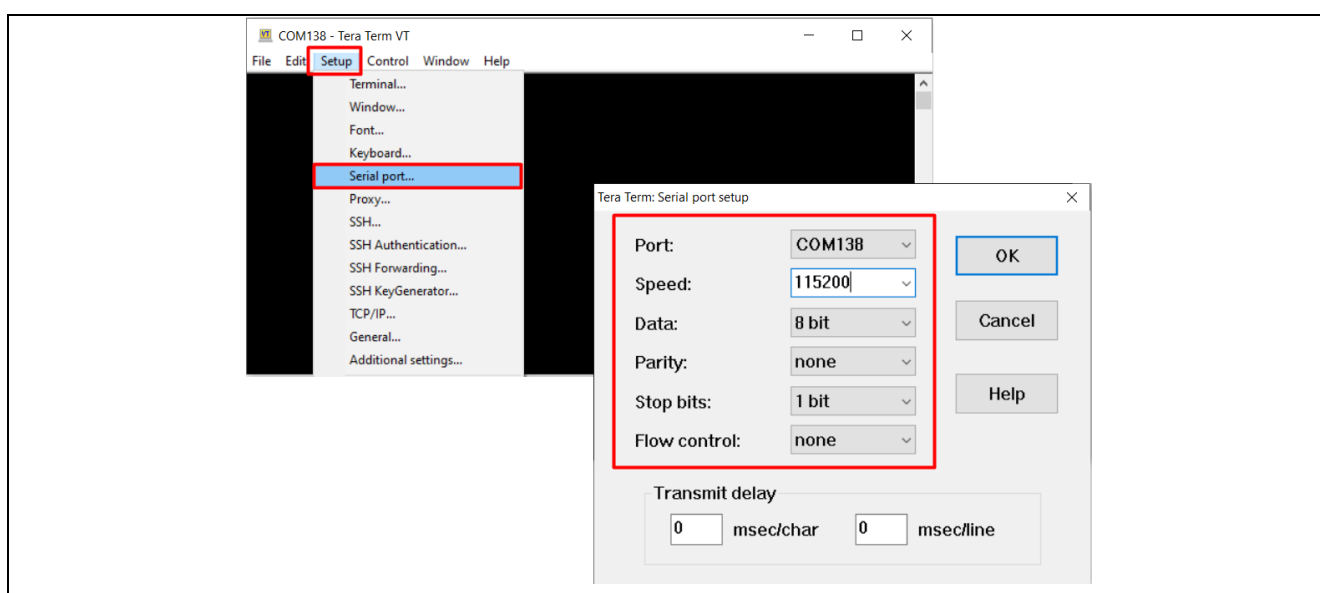

Figure 63. Example of Serial Port Set Up in Tera Term Terminal
4. Configure the terminal settings by selecting Setup > Serial Port, then adjust the baud rate and other serial parameters according to the project requirements (Figure 63).